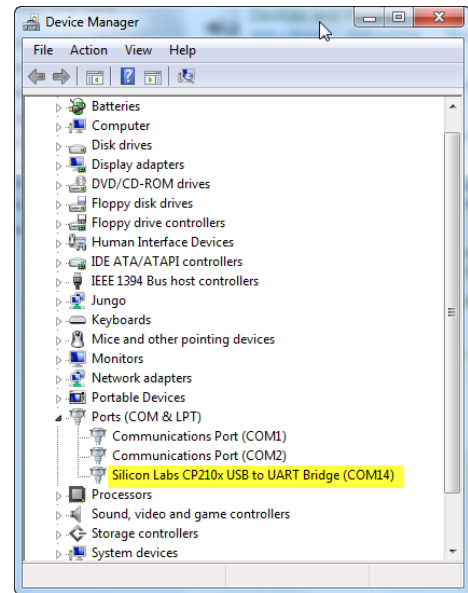

Figure 28 -- Device Manager showing COM Port for A-910 Dongle
5. Locate **SILICON LABS CP210x USB to UART Bridge (COM x)** (see **Figure 28**).